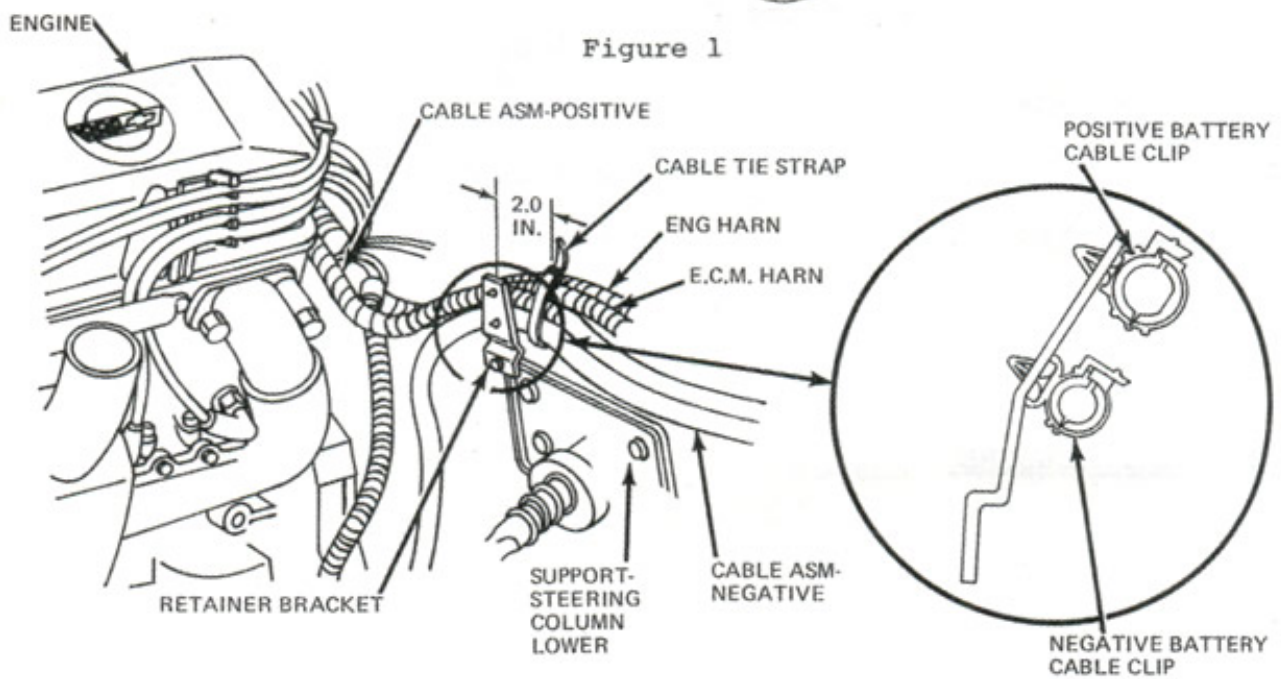

Figure 2
6. Install the supplied conduit clips on supplied bracket. The larger inside diameter clip in the top hole and the smaller in the lower hole. Both battery cables must be routed on the rear side of the new harness bracket. (Figure 2)
THE UPPER (POSITIVE) CABLE CLIP IS TO BE LOCATED AND LOCKED 51MM (2.0 IN.) INBOARD FROM THE OUTBOARD END OF THE CONDUIT. (FIGURE 2)